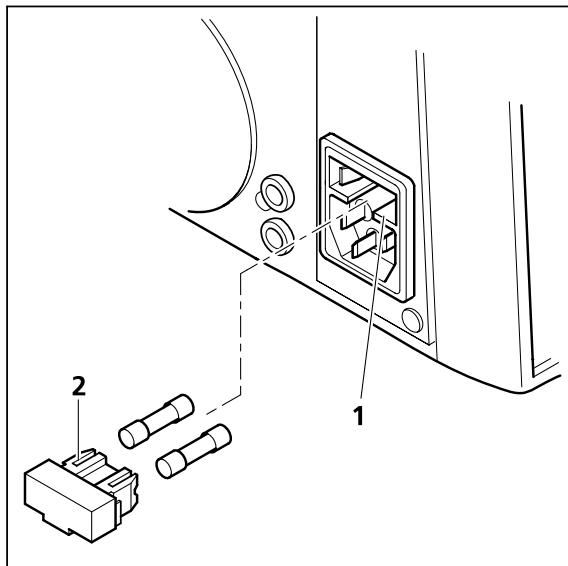

Fig. 5-1 Changing the fuses on the stand
- Pull the fuse retainer (Fig. 5-1/2) forward with the aid of a small screwdriver, if necessary.
- Push the fuse retainer back into the compartment (Fig. 5-1/1) to the stop.